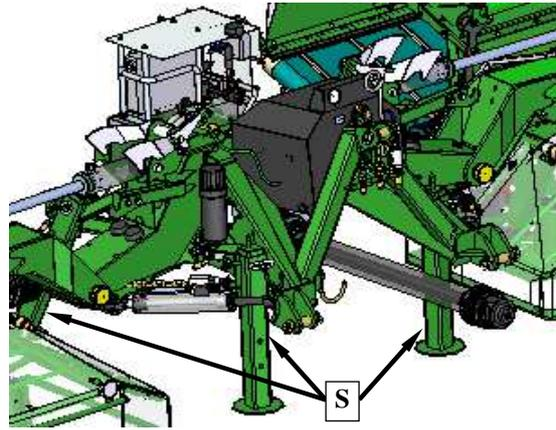

Fig. 19. Support legs
- lift support feet **S** and secure them with cotter (**Fig. 19**),